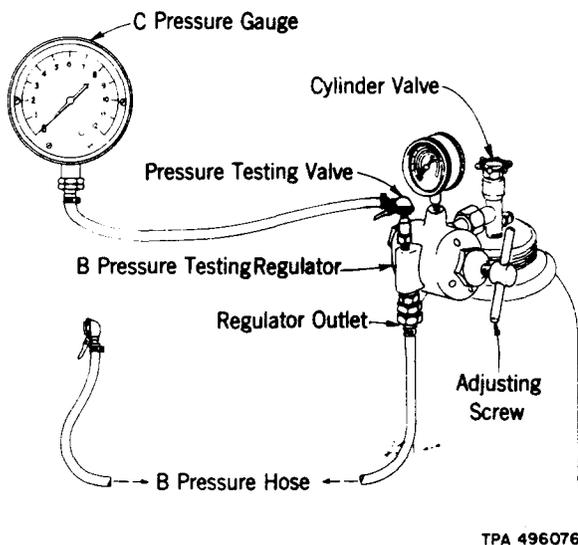

Fig. 6—Testing B Pressure Testing Regulator
- (1) Connect a B or C Pressure Gauge to the pressure-testing valve of the regulator and a pressure hose to the regulator outlet as shown in Fig. 6.